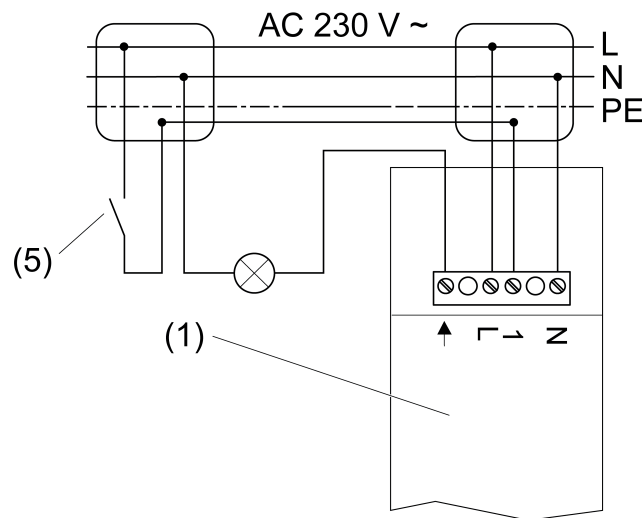

Figure 3
- Connect the switch actuator (1) and if necessary the installation button (5) in accordance with the connection diagram (figure 3).